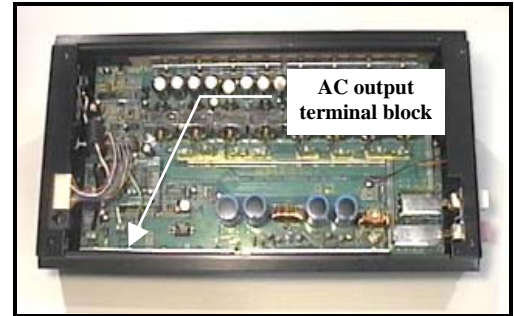

Figure 9. PROwatt 1500 AC output connections
**WARNING!** Permanent AC connections to the terminal blocks shown in figures 9 & 9A **are not** GFCI protected.
- b) Remove the bottom plate from the PROwatt 1500 (four screws). This will expose the AC terminal blocks (see Figure 9).